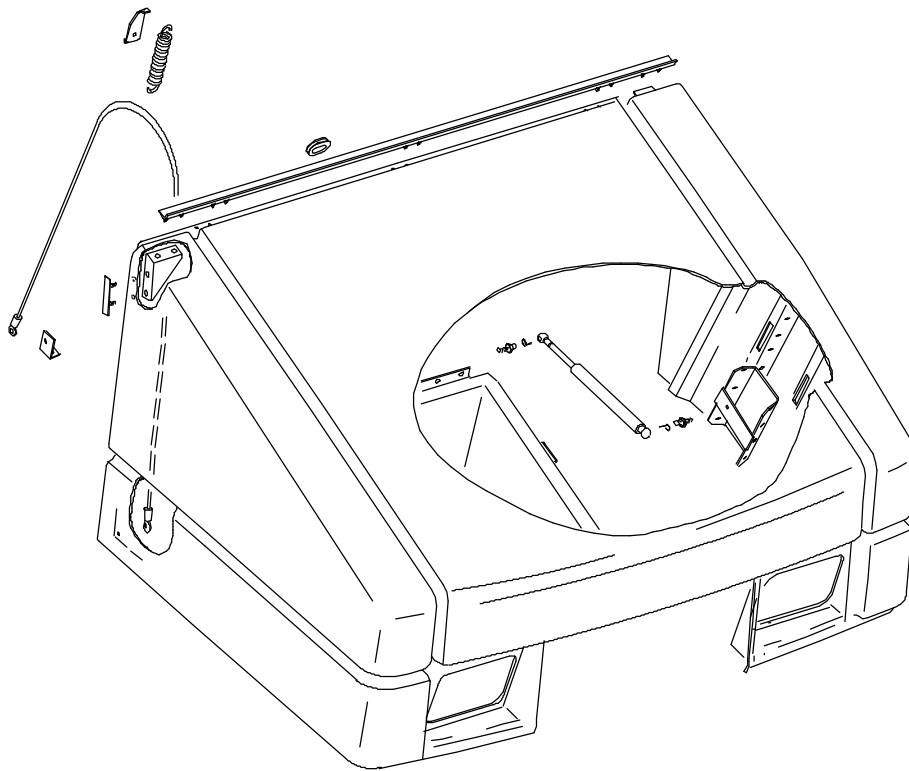
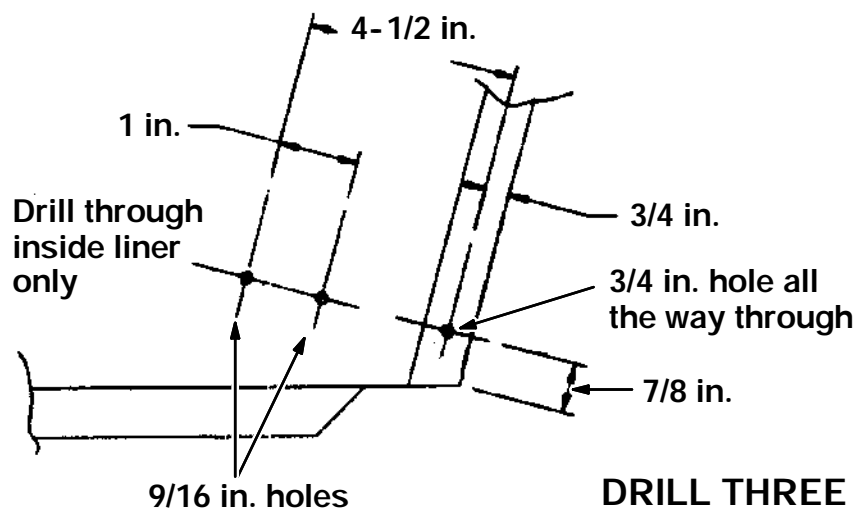

FIG. 3 - LH Hopper Cover Safety Cable Installation
FIG. 4 - Cable Bracket Holes For LH Machine
8. Install the tension spring bracket (3) in the hole that was drilled in the frame tube in step 3. Use one hex screw (4), flat washer (5), and flange nut (6). Tighten to 14 - 18 ft lb. (Refer to Fig. 3)
NOTE: The tension spring bracket is installed with the spring hole facing up. (Refer to Fig. 3)
9. Install one end of the tension spring (7) in the hole on the spring bracket (3) and the other end hooked around the safety cable (8). (Refer to Fig. 3)
(Refer to FIG. 4)
1. Use a 3/16 in. drill bit to drill out the two rivets holding the cable bracket to the lower LH side of the new cover. Remove the bracket and position it on the other side of the hopper cover. See Fig. 3 for the hole dimensions. (Refer to Fig. 4)
2. Install the cable bracket on the RH side of the new cover using two rivets. (Refer to Fig. 3)